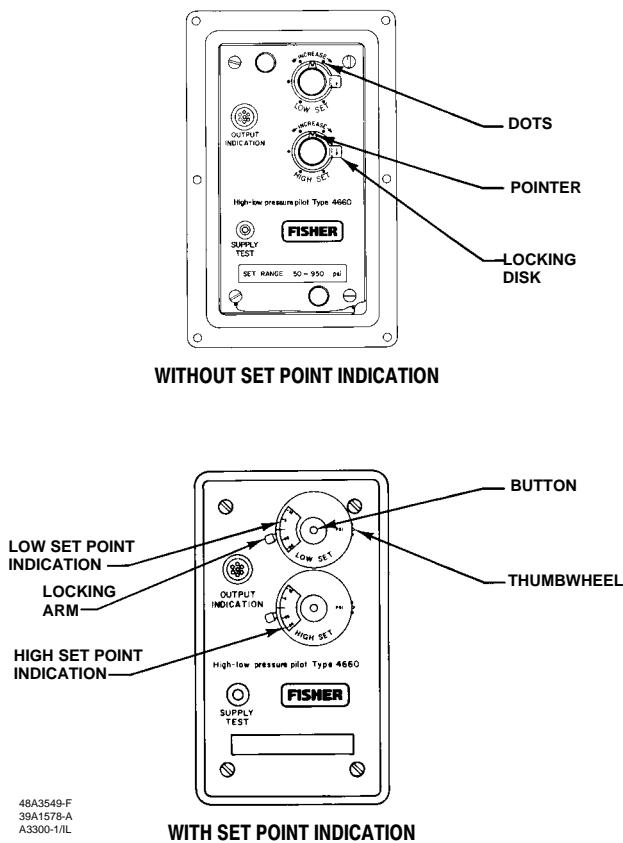

Figure 5. Set Point Adjustment Detail
This procedure may be used to closely approximate the desired high and low set points when no external pressure source is available to simulate process pressure. If the pilot does not have the optional output indicator (key 88), provide a means of indicating the output pressure. Refer to figure 5.
3. Push the small button in the center of the knob with a ball point pen or pencil and rotate the scale with the thumbwheel on the right hand edge of the module (see figure 5) until the number 50 aligns with